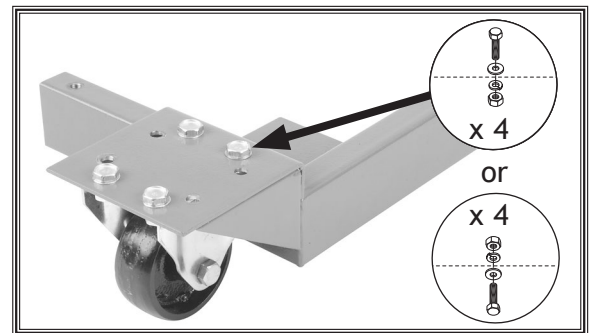

Figure 22. Mounting fixed casters to eight hole pattern corner brackets.
- Mount each of the two fixed casters to the remaining corner brackets with the eight hole pattern using (4) M8-1.25 x 16 hex bolts, 8mm flat washers, 8mm lock washers and M8-1.25 hex nuts, as shown in **Figure 22**.